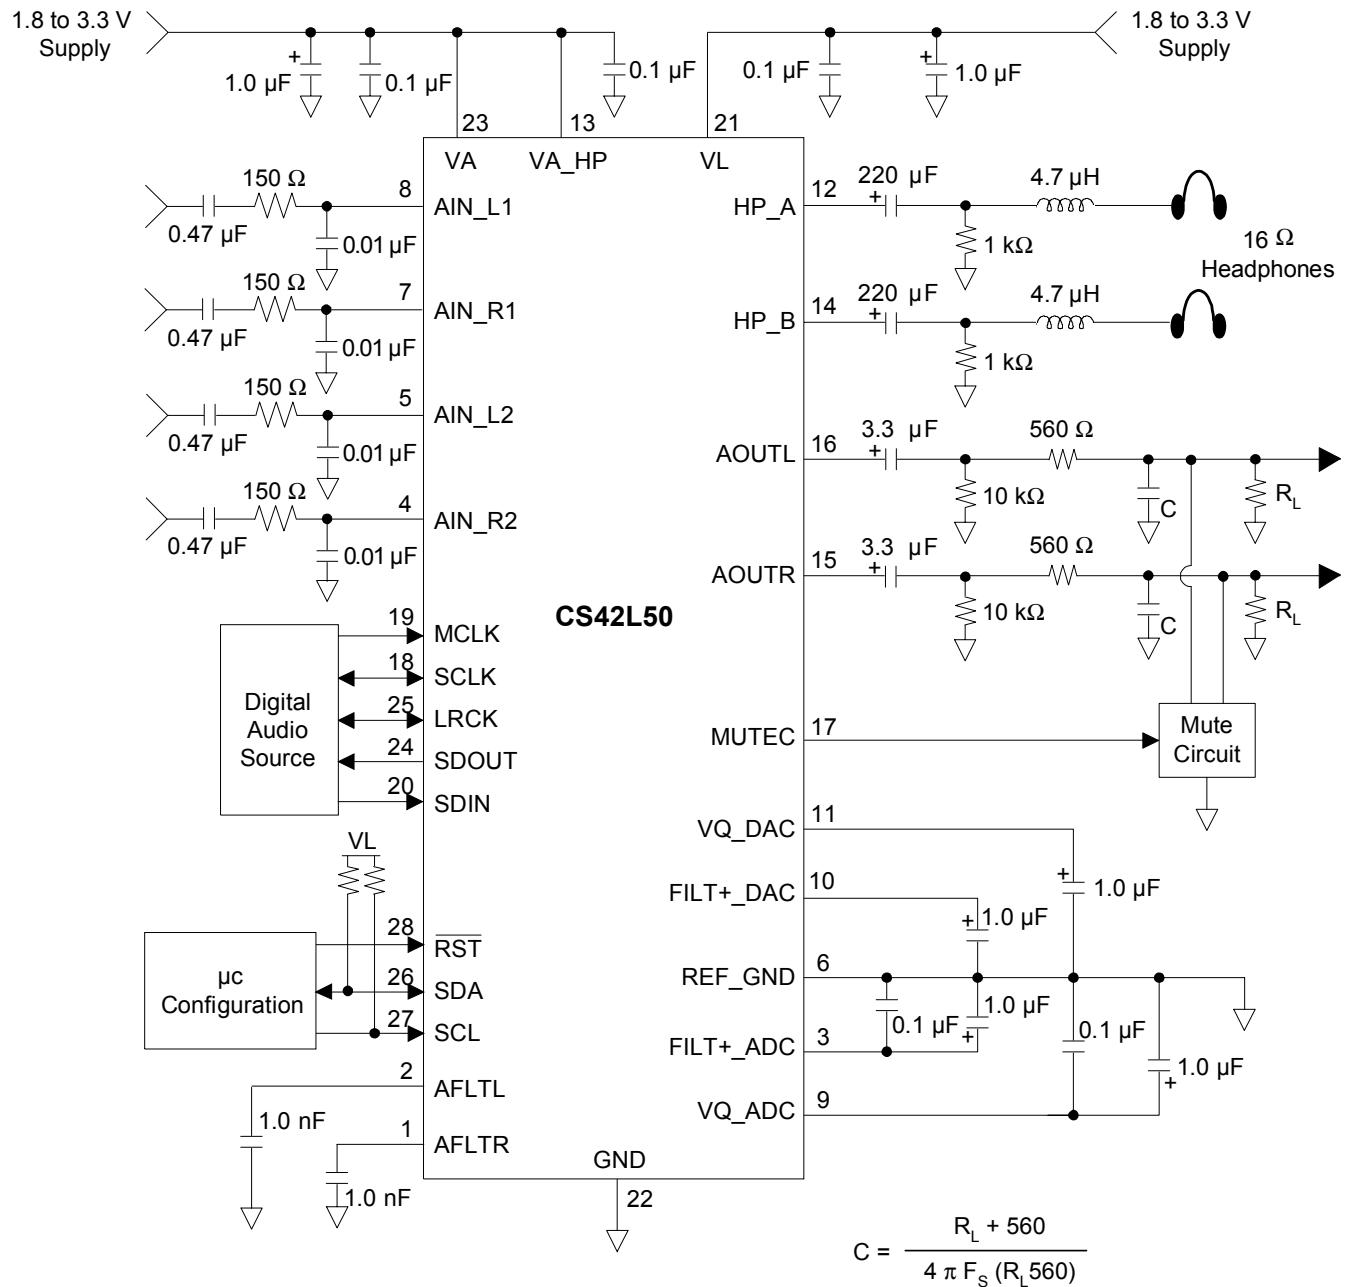

Figure 4. CS42L50 Typical Connection Diagram
14. Valid with the recommended capacitor values on FILT+\_ADC, FILT+\_DAC, VQ\_DAC, and VQ\_ADC as shown in Figure 4. Increasing the capacitance will also increase the PSRR. Note that care should be taken when selecting capacitor type, as any leakage current in excess of 1.0  $\mu\text{A}$  will cause degradation in analog performance. A small ceramic capacitor in parallel with a larger electrolytic is recommended.
Notes: 15. VA and VA\_HP should be tied to the same supply as shown in Figure 4.